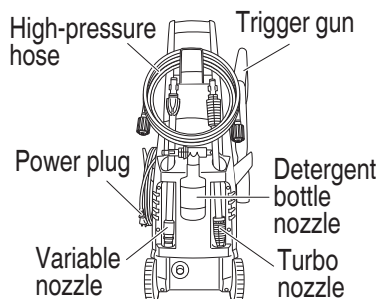

Fig. 26
5. Tidying up and storing the washer after use (Fig. 26)
The accessories can be stored inside the washer as shown in **Fig. 26** when not in use and when being carried around.